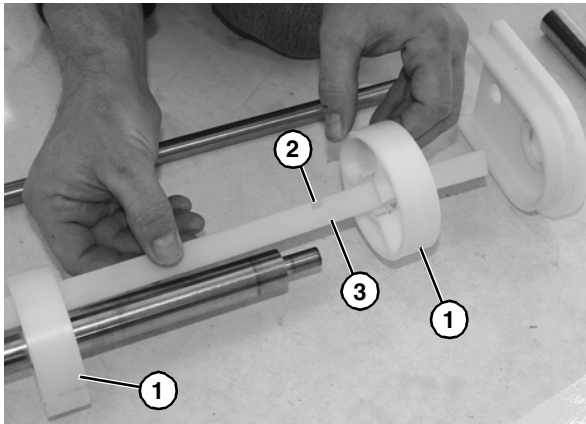

Figure 66
1. Place the pucks (Figure 66, item 1) into the slots (Figure 66, item 2) of alignment bar (Figure 66, item 3).